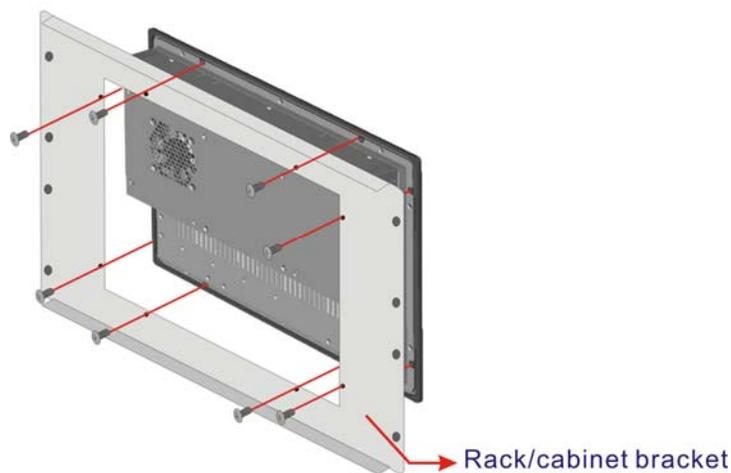

Figure 4-33: Secure the Rack/Cabinet Bracket
- Step 4:** Secure the rack/cabinet bracket to the PPC-3712A-N270 flat panel PC by inserting the retention screws (**Figure 4-33**).